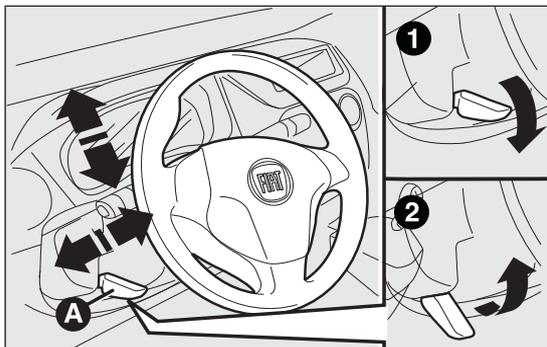

fig. 25
- release lever A fig. 25 by pushing it forwards (position 1);